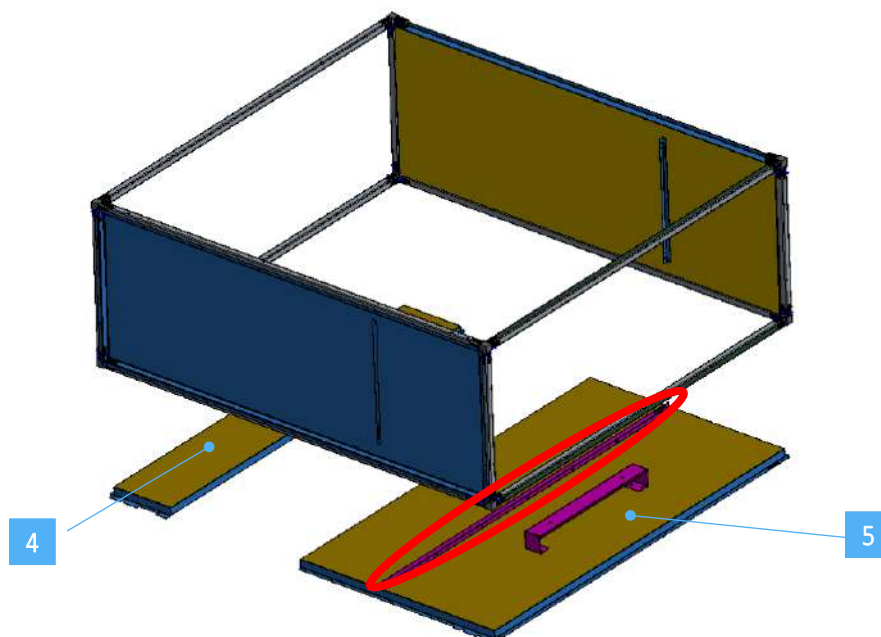

Fig. 7 *Bottom panels assembly.*
- 4 Insert the rear panel [7] (PN 73-00056-01) and the front panel [8] (PN 73-00065-01) inside the tubes as shown in figure 7 and fix them using the supplied M4 self-tapping screws.